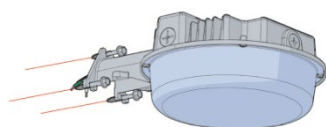

Figure 1
1. Mark and drill the appropriate holes for the fixture screw slots (Figure 1). Lag screws for mounting to wooden surfaces are provided, for other mounting surfaces use appropriate hardware provided by others.